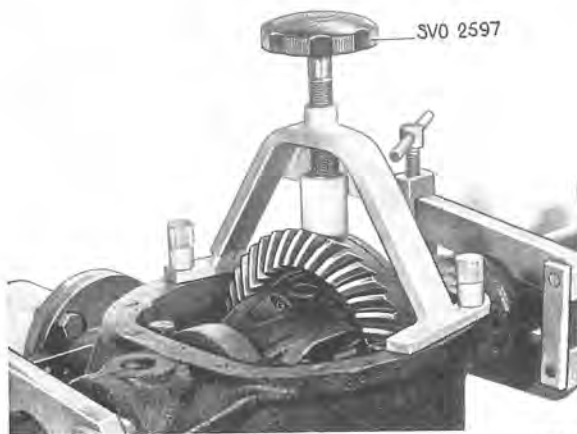

Fig. 4-165. Brake tool for differential
2. Fit on brake tool 2597 as shown in Fig. 4-165. Apply marking blue to several teeth at three points on the crown wheel. This can serve as a check on the crown wheel for possible warping. Rotate the pinion 10—12 turns in both directions and check the mesh marking pattern. With correct tooth mesh, the mesh marking pattern should be horizontal in the middle of the tooth but somewhat nearer to the toe than the heel. The patterns on the coast side and drive side should coincide with each other. See Fig. 4-166. If the patterns do not coincide, the pinion location must be adjusted